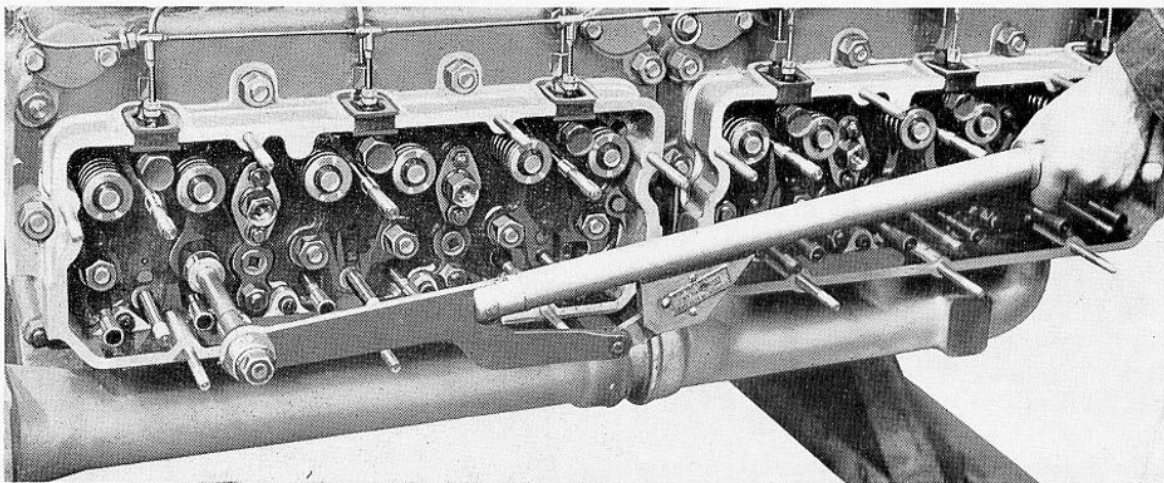
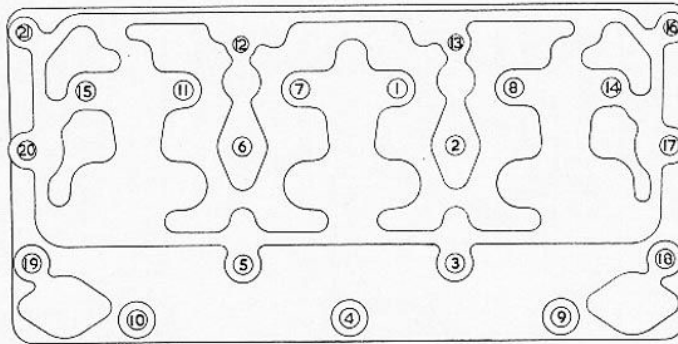

FIG. 6. TIGHTENING CYLINDER HEAD NUTS WITH A TORSION SPANNER
FIG. 7. CORRECT SEQUENCE OF TIGHTENING CYLINDER HEAD NUTS
5. To ensure freedom from distortion and gasket leaks, the cylinder head nuts must be tightened down evenly in a definite sequence, starting at the centre and working outwards, as shown in Fig. 7. Tighten down with a torsion spanner set at 200 lb. ft. (27.5 kg. m.) for all  $\frac{5}{8}$  in. UNF nuts and 100 lb. ft. (13.8 kg. m.) for  $\frac{1}{2}$  in. UNF nuts (Nos. 21, 12, 13 and 16). At a convenient time, provided that the engine has been running for over 45 minutes, see Fig. 6. All the nuts must be retightened immediately after stopping the engine, using the torsion spanner.